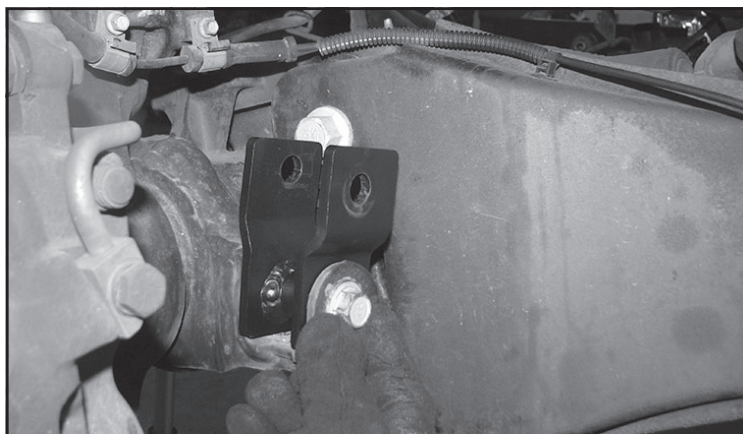

FIGURE 8 - STEP 9
9. Locate the FT30580 (driver shock extension), using the factory lower shock hardware, install the shock extension into the factory lower shock mount. Torque to 160 ft-lbs. **SEE FIGURE 8**